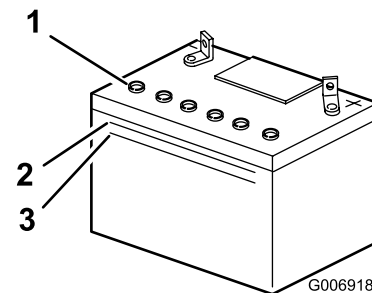

Figure 28
2. Look at the side of the battery. The electrolyte should be up to the Upper line (Figure 28).
**Note:** Do not allow the electrolyte to fall below the Lower line (Figure 28).
3. Remove the vent caps from the battery (Figure 28).
4. Slowly pour distilled water into each battery cell until the electrolyte level is up to the Upper line (Figure 28) on the battery case.
5. Wait 5 to 10 minutes after filling the battery cells. Add distilled water, if necessary, until the electrolyte level is up to the Upper line (Figure 28) on the battery case.